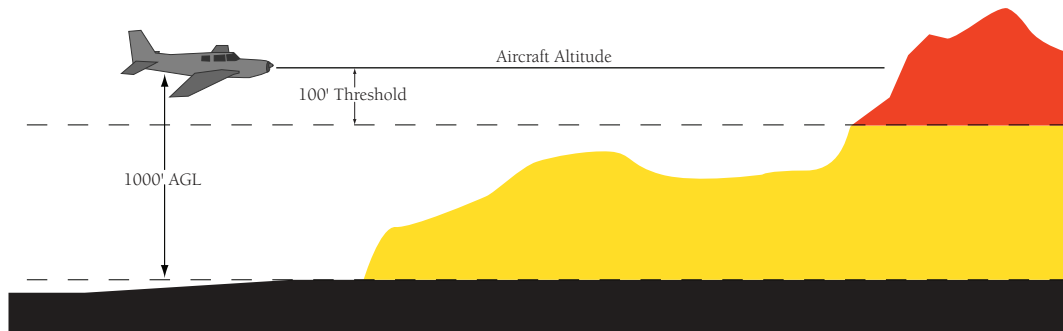

Figure 7-20 Terrain Scale
- Terrain Range - Indicates the terrain elevation in colors relative to the aircraft altitude (Figure 7-20)